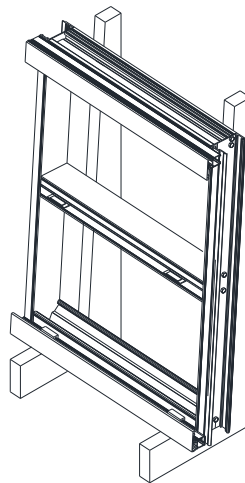

Figure 37: SSG Vertical Rack
- 12.3.9 Store unit on a vertical rack. Unit may be glazed on this rack or glazed lying flat. Orient accordingly for inside or outside glazing. *Figure 37* shows a panel on a vertical rack.